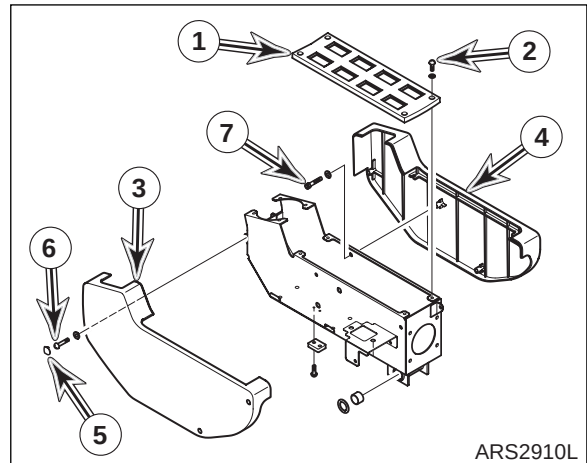

Figure 4
7. Remove four bolts and washers (2, Figure 4) and cover (1).
8. Pull cap (5, Figure 4) out and remove two screws, two bolts and washers (6) and cover (3).
9. Remove three screws, one bolt and washers (7, Figure 4) and cover (4).